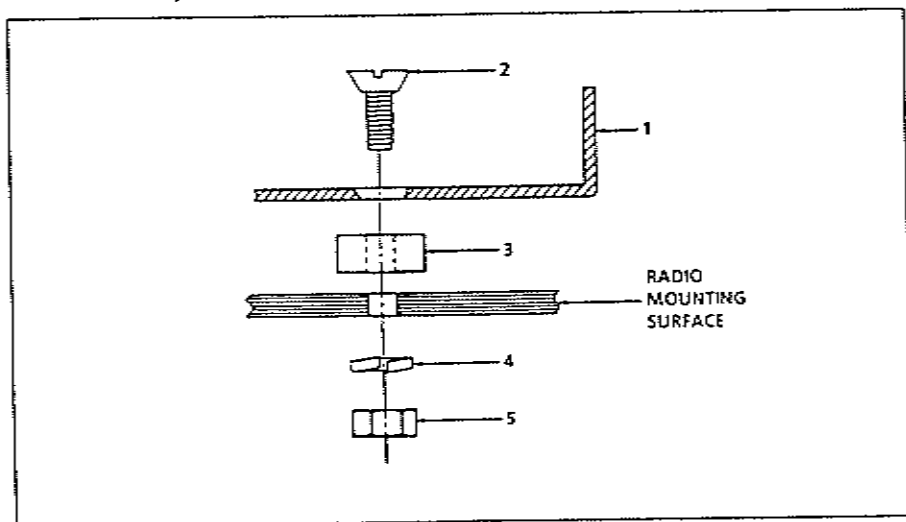

Figure 3-1. Clean Cab Mounting Tray Detail
To install the clean cab mounting tray onto the control stand brackets or other mounting surface, carry out the following steps (refer to Figure 3-1):
1. Using the clean cab tray (1) as a template, locate and drill four holes using a 7/32" drill (hole sized for a 10-32 screw).
2. Mount the tray using four 10-32 flat head screws (2) which have been cut to length needed. Due to the clips on the underside of the clean cab tray, four 3/8" high spacer washers (3) must be used.
3. Install the lock washers (4) and hex nuts (5) as shown in Figure 3-1 Clean Cab Mounting Tray Detail. Tighten all nuts and screws securely.